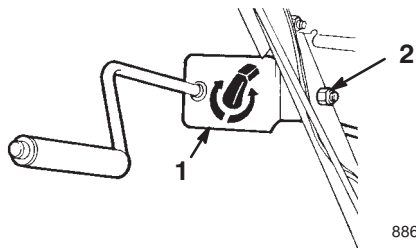

Figure 9
1. Assemble the chute control bracket and rod to the left side of the handle assembly with the bolt and the locknut as shown in Figure 9.
5. Tighten the locknut that secures the chute control bracket (Fig. 9).